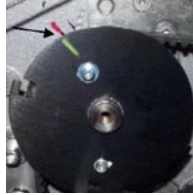

Figure 2 - Z-Home Flag With Index Mark
4. Using a permanent marker, mark a common index mark on both the z-home flag and the upper arm body as shown in Figure 2 above.
7. Place the new belt on the upper and lower shaft pulleys, keeping both pulleys aligned to their respective index marks as shown in Figures 2 and 3 above.